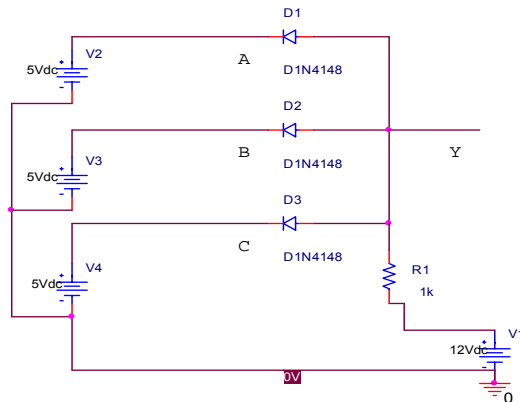

Fig 6-1
Step 1: Install the components of Fig. 6-1 on the breadboard and link the connection correctly.
Step 3: Link point A, B, C of Fig. 6-1 to Data Switches “0”, “1”, “2” respectively Connect point Y of Fig.6-1 to 8 Bit LED Display “0”.